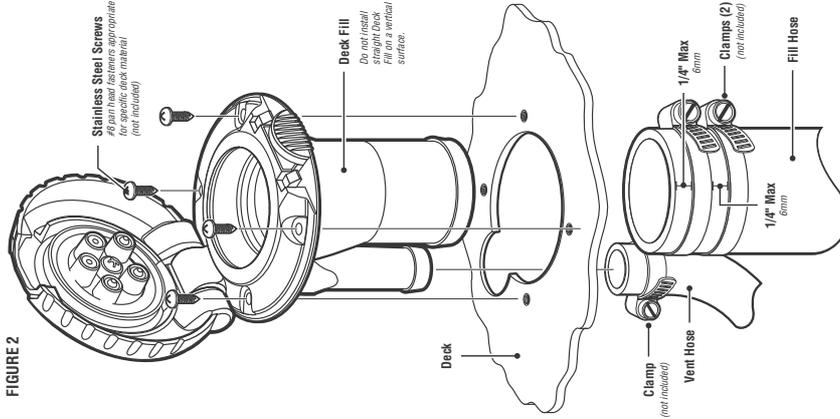

FIGURE 2
3. "Dry Fit" the Deck Fill neck into hole. (Figure 2)
8. Attach and clamp 1-1/2" (38mm) fill hose using two (2) clamps. Use corrosion-resistant metallic clamps with nominal band widths of at least 1/2" (12mm). The first clamp should be 1/4" (6mm) from the end of the hose. The second hose clamp should be 1/4" (6mm) from the end of the hose. The second hose clamp should be 1/4" (6mm) from the end of the hose. The second hose clamp should be 1/4" (6mm) from the end of the hose.
9. Attach and clamp 5/8" (16mm) maximum vent hose using at least one (1) corrosion-resistant metallic clamp with nominal band width of at least 5/16" (8mm). Torque hose clamp to 38 +/- 4 in-lb.
10. Attach and clamp 5/8" vent hose using one (1) clamp. Torque hose clamp to 38 +/- 4 in-lb. Ensure 5/8" vent hose connects with 5/8" port on 99FL Series vent valves.